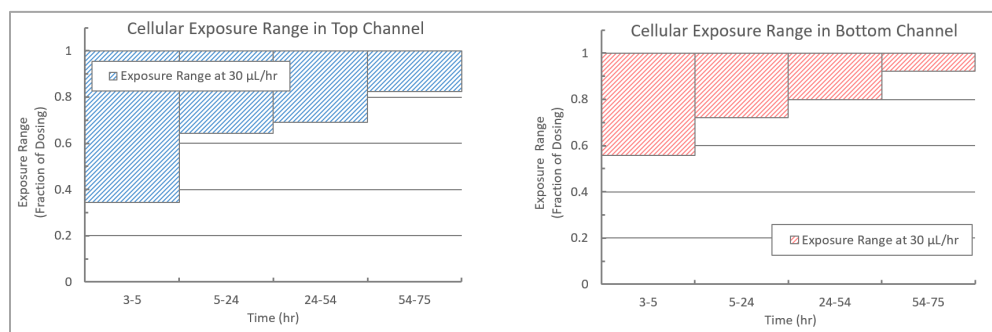

Figure 2
2. The range of potential cellular exposure concentrations is plotted for each collection time period for both channels. A representative example is shown in Figure 2. This plot illustrates how compound distribution in the system creates an uncertainty in the drug concentration that cells experience. For example, if all compound distribution occurs upstream of the cells, the cells would experience a lower compound concentration than if the compound
distribution occurs entirely downstream of the cells (in which case the cells would experience the full dosing concentration). Specifically, in the 6–24-hour time period of the experiment in Figure 2, cells experience between 64% and 100% of the dosing concentration. If a compound is minimally distributed into the system, you will observe a tighter range near the top of the graph, which means that the cells are expected to be exposed to most of the dosed compound.
- Table 1 represents the information in Figure 2, indicating the range (max and min) of cellular exposure concentrations in both channels. The same exposure concentration information is presented both as “fraction of dosing”, and in terms of exposure concentration.
1. Ahead of performing the intended Organ-Chip study: for each timepoint, examine the potential range of cellular exposure (either in the form of Figure 2 or Table 1) and determine whether the expected uncertainty is acceptable for the intended study. For example, the aforementioned uncertainty range of 64% to 100% in the 6–24-hour time period of the example in Figure 2 may be acceptable for some studies, but not others. If the uncertainty is unacceptable, consider eliminating that timepoint from the intended Organ-Chip study or replacing it with a later one.